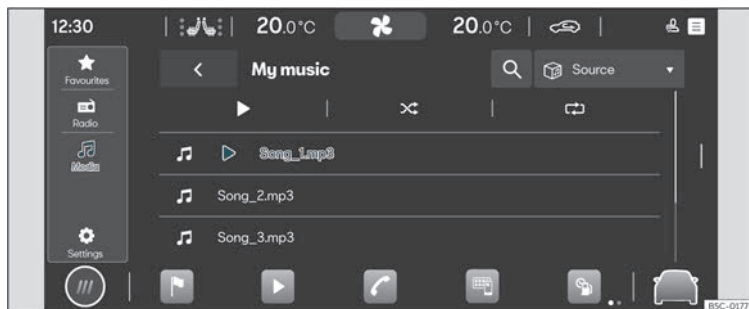

Fig. 147 Schematic representation: Multimedia view
- Press **HOME** > ► > >>> Fig. 147.